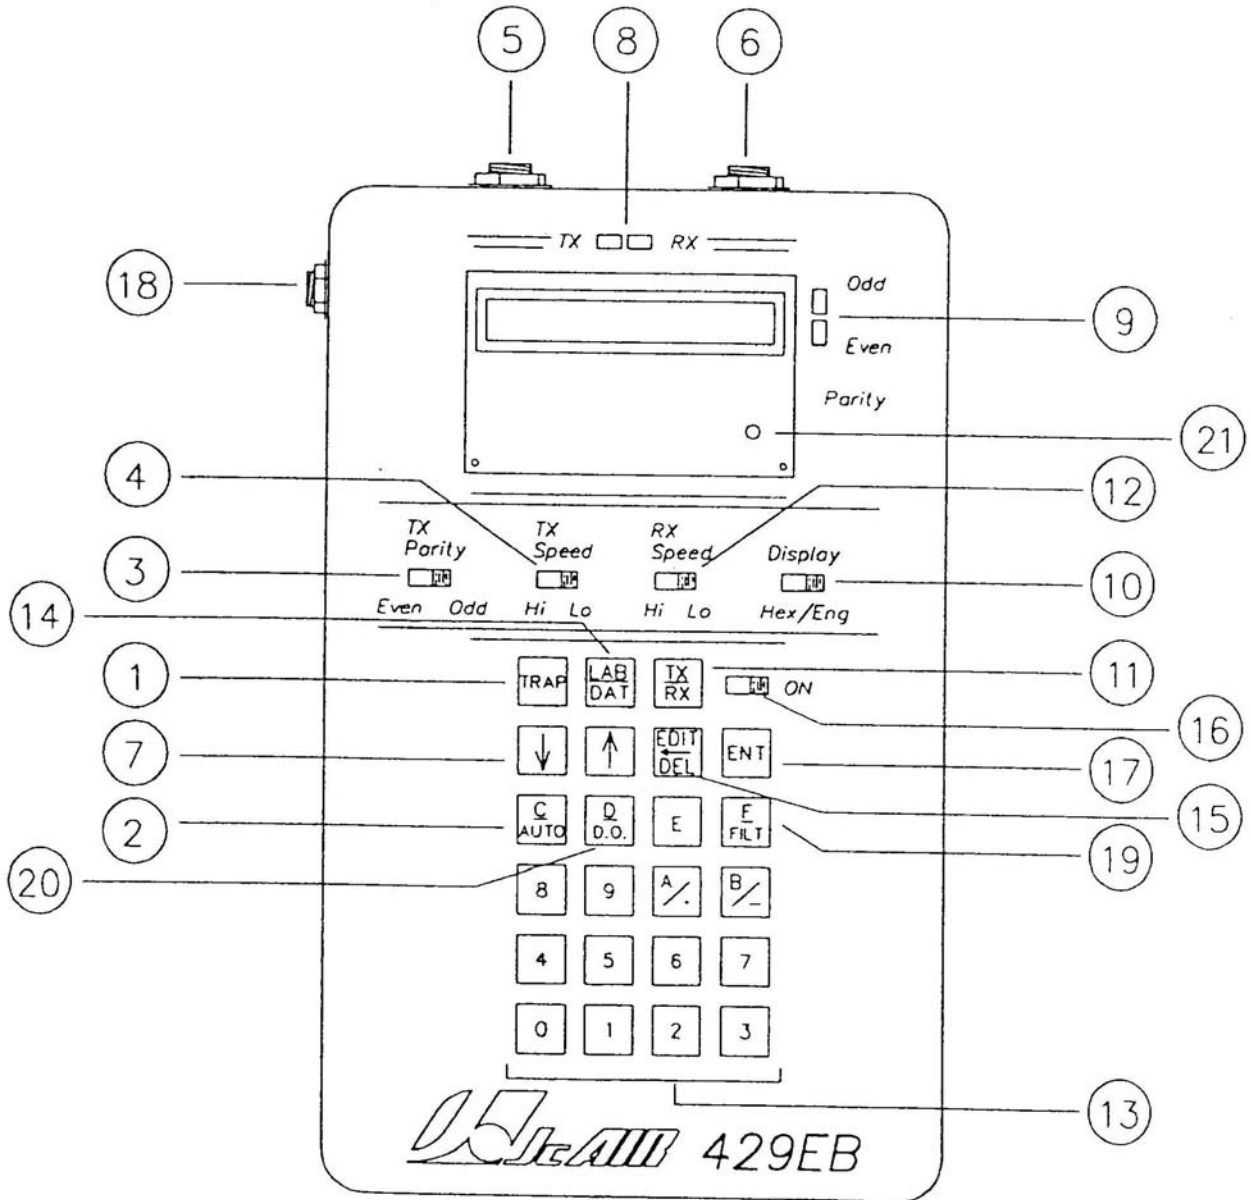

Figure 3-1: Controls and Indicators
3.2.1 CONTROLS AND INDICATORS (Figure 3-1)